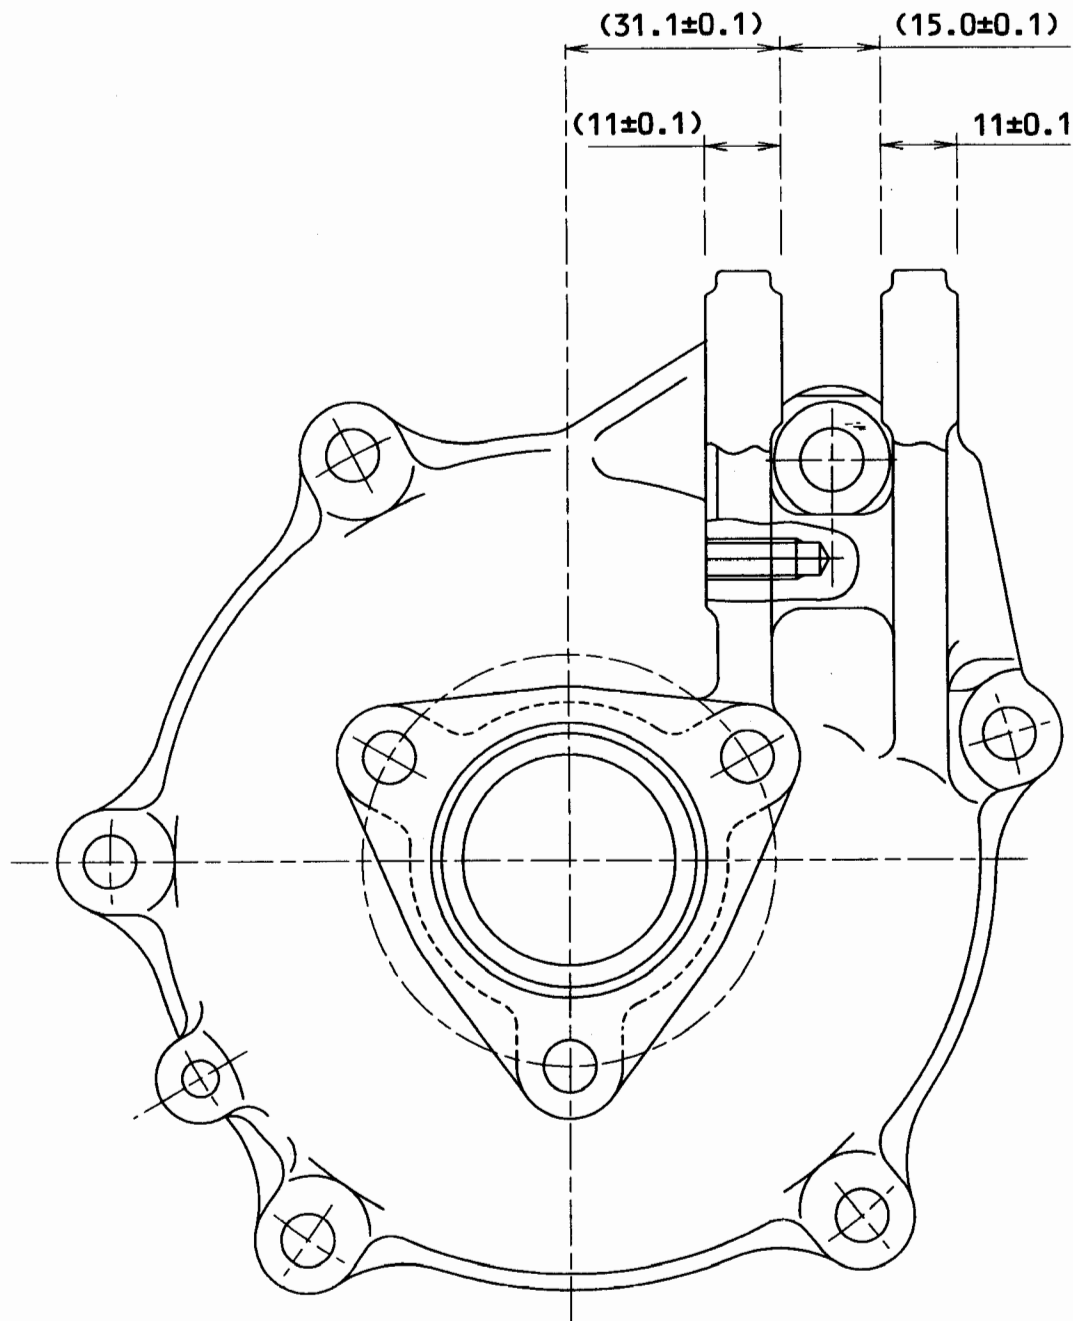

**Figure 1 Set-Up Extracting-Bushing (OF25-034)**
(2) Extract the Bushings from the Header Assy. Use the procedure shown below:
- (b) Set the Header Assy on the Tool H302918 (or equivalent) as shown on figure 1 so that the Tool H302918 (or equivalent) supports the casting lug surface of the Header Assy.
- (c) Insert the Tool H302917-1 (or equivalent) into one (1) of the Bushings, 0F25-034 with smaller diameter down on the figure 1.
- (g) Discard the extracted two (2) Bushings.
(3) To modify the Header from P/N 0F25-114 to 55022014-3, do these steps: